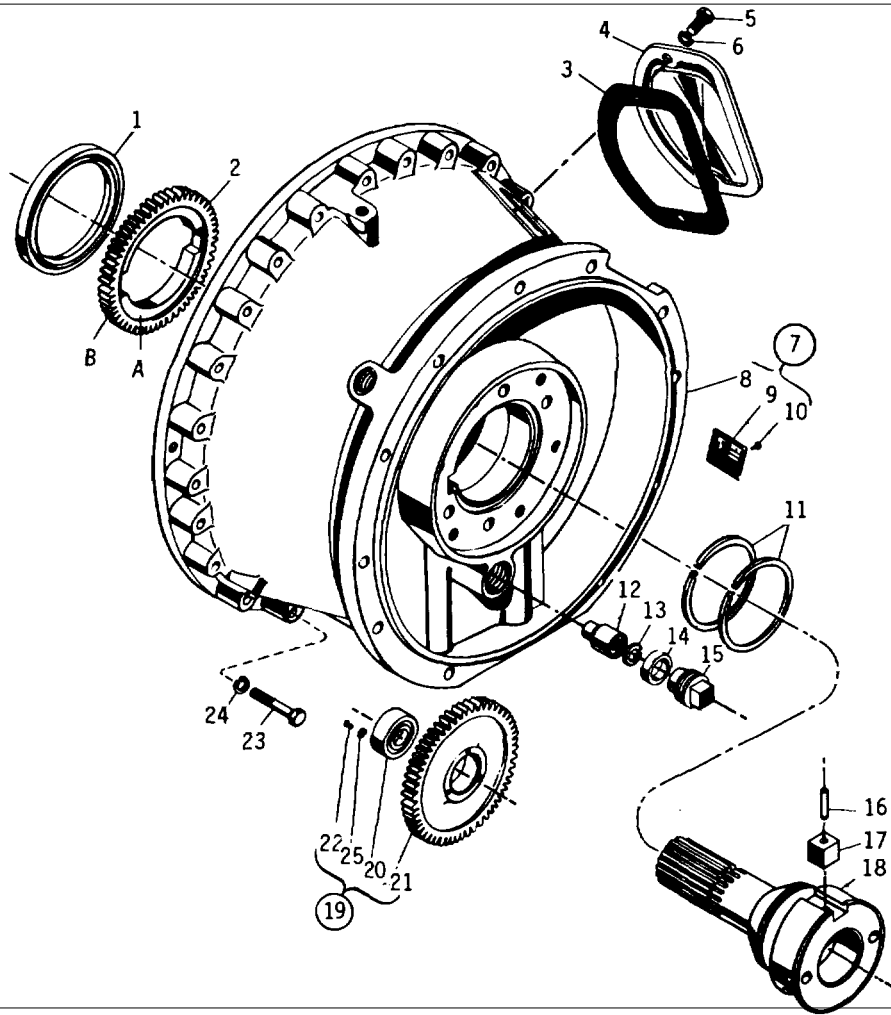
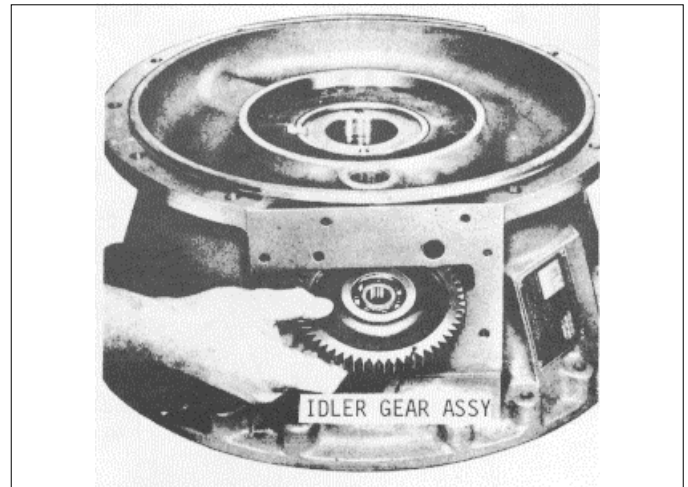
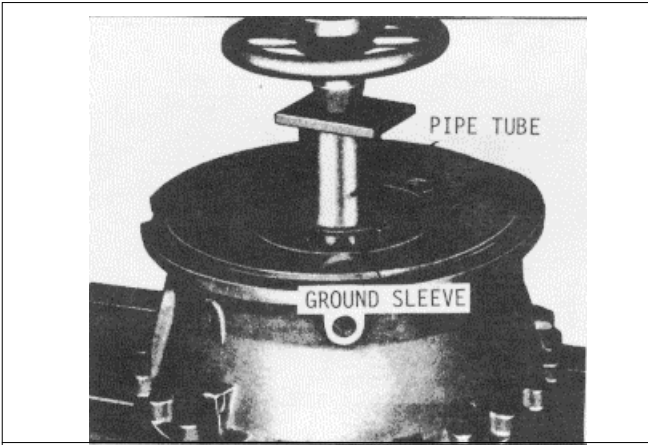

Fig. 14
Fig. 17
Fig. 19
- (1) Remove two bolts (5) (Fig. 14) and lockwashers (6) that retains converter housing access cover (4).
- (2) Remove cover (4) and gasket (3).
- (1) Disassembly (Fig. 14)
- (d) Remove the oil pump idler gear assembly (Fig. 17). Refer to paragraph 74.20 for gear assembly rebuild instructions.
- (e) Oil pump drive gear (2) (Fig. 14) and converter pump hub oil seal (1) generally are not removed. If either the gear or seal needs to be replaced, collapse the oil seal with a drift and hammer and remove the oil seal. The gear can then be removed.
(3) Assembly (Fig. 14)
(a) If the ground sleeve was removed, install dowel pin (16) (Fig. 14) in ground sleeve key (17) and install the key on the new ground sleeve (18) so that the end of the key is flush with the face of the ground sleeve. Notice that the dowel pin hole in the key is off center. Press the ground sleeve and the key into the housing (Fig. 19).
(b) If oil pump drive gear (2)(Fig.14) and converter pump hub oil seal (1) were removed, install the gear. Install the oil seal with the spring side toward the gear, using replacer J 7475 (Fig. 14).
- (d) Install the charging oil pump idler gear assembly by positioning the gear in the housing bore (Fig. 17) and installing oil pump idler gear shaft (12) (Fig. 14) in its bore. Use a soft drift or a bolt of the proper size threaded into the shaft and tap the shaft into place.